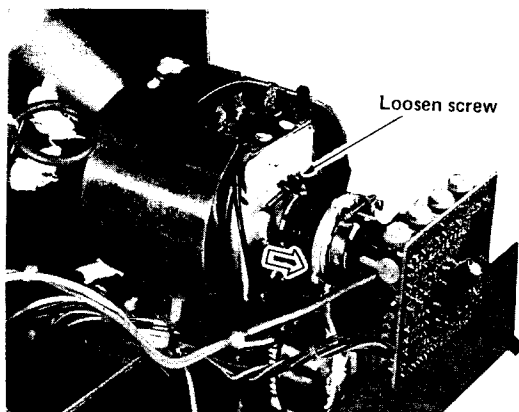

Fig. 4-2-2
- Loosen the holding screw of deflection coil and move back the coil until it reaches to the magnet assy. (Fig. 4-2-2)